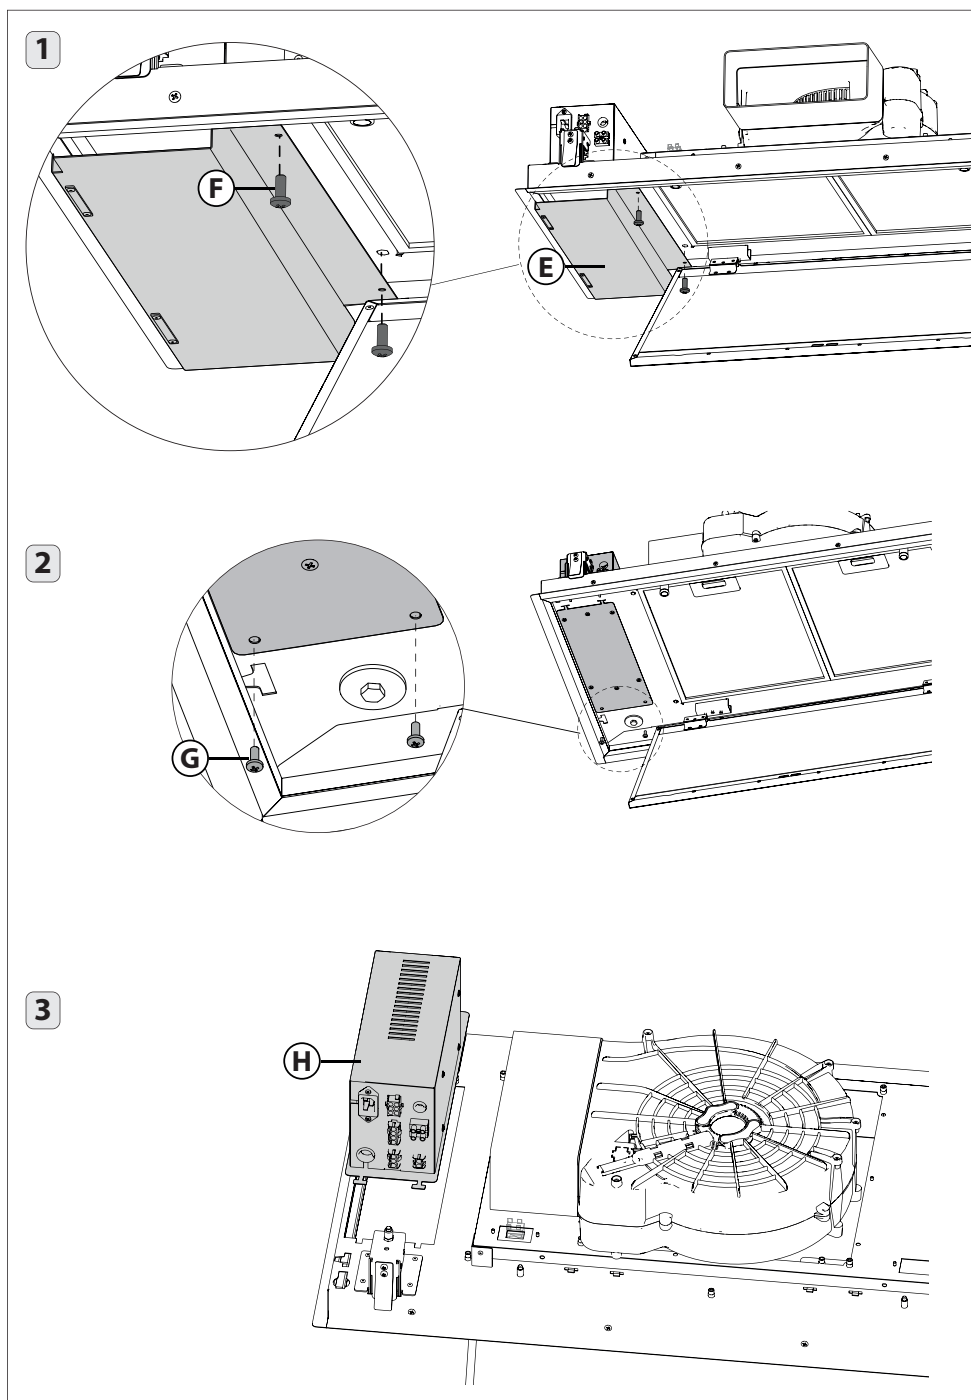

Fig.5
- Remove the screws **F** and the bracket **E** (Fig. 5 – step 1);
- Remove the screws **G** (Fig.5 – step 2), lift the entire electronic box **H** (Fig. 5 – step 3) and position the motor box on the opposite side (Fig.6 – step 5).